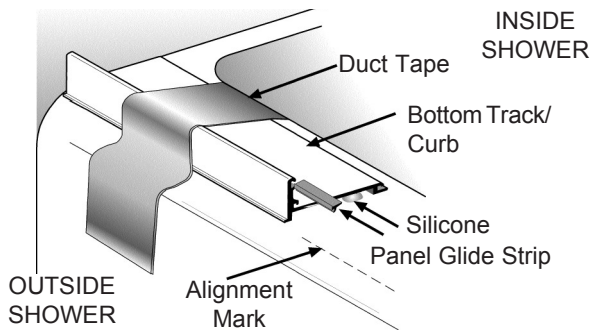

Figure 2
- C. Locate Bottom Track/Curb (#2). Remove the Panel Glide Strip (#12) from the Bottom Track/Curb (#2) (See Figure 2).
- E. Locate the Panel Glide Strip (#12) (See Figure 2) and, using the Wire Cutters, cut it 3/8" shorter than the Bottom Track/Curb (#2). Re-install the Panel Glide Strip (#12) into the Bottom Track/Curb (#2) so that the ends of Panel Glide Strip (#12) are evenly spaced at each end of the Bottom Track/Curb (#2).
- F. Cut two pieces of Duct Tape 12" long. Next, use the Caulking Gun and apply a thick bead of Silicone sealant (approximately 3/8" in diameter) to the bottom surface of the Bottom Track/Curb (#2) as indicated in Figure 2. Position the Bottom Track/Curb (#2) on the tub sill, aligning with the marks you made in Step 3C. Use the two strips of Duct Tape to temporarily secure the Bottom Track/Curb (#2) in place. **DO NOT** place the tape within 2" of the wall.